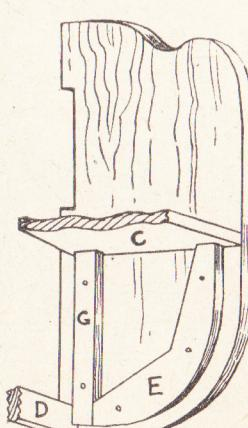

Fig. 4—Interior construction
The back edge of piece (E) is cut away anglewise to allow for room for the electric bulb fitting which is at one end only, of course. Pieces (G) are  $4\frac{1}{2}$  ins. long and  $\frac{1}{2}$  in. wide, and these and the pieces (E) are glued and screwed to the ends as shown in the sectional diagram at Fig. 4.